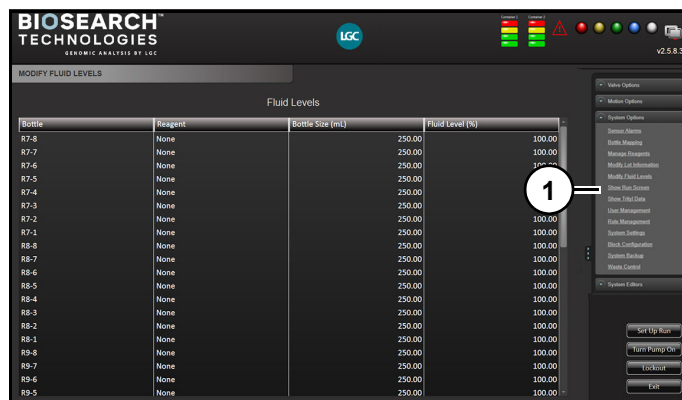

Figure 45
Modify Fluid Levels (1) (Figure 45) is used to track fluid levels. Bottle size can be entered, and after each run, user can manually subtract amount used in previous run in terms of percentage loss. Helps keep track of chemical consumption and ensure user checks reagent levels to prevent failed runs due to insufficient chemicals.